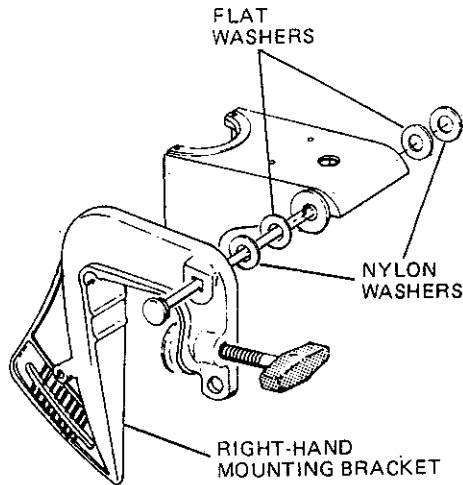

Figure 45. Install washers.
D. Assemble the nylon washers, flat washers and swivel bracket onto the carriage bolt (Figure 45).